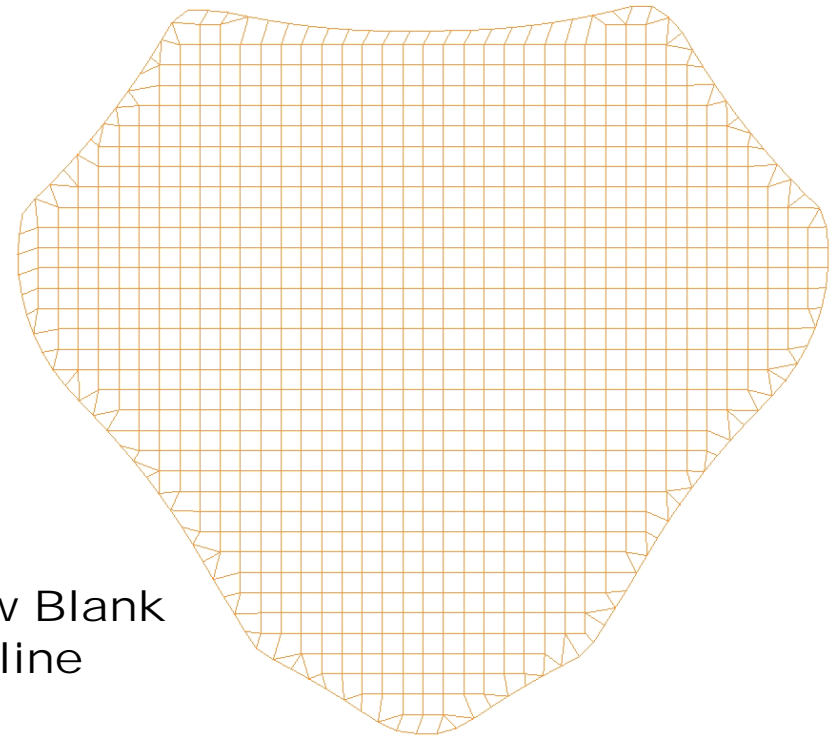

Figure 1.26
- j) Pick **BOUNDARY LINE** (See Figure 1.26)